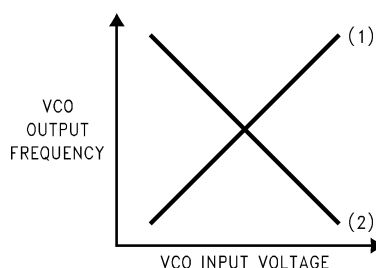

Figure 21. VCO Characteristics
- (1) PHASE DETECTOR POLARITY, Depending upon VCO characteristics, R16 bit should be set accordingly: (see Figure 21) When VCO characteristics are positive like (1), R16 should be set HIGH; When VCO characteristics are negative like (2), R16 should be set LOW.
(2) Refer to POWERDOWN OPERATION.
(3) The I_{CP0} LOW current state = 1/4 × I_{CP0} HIGH current.